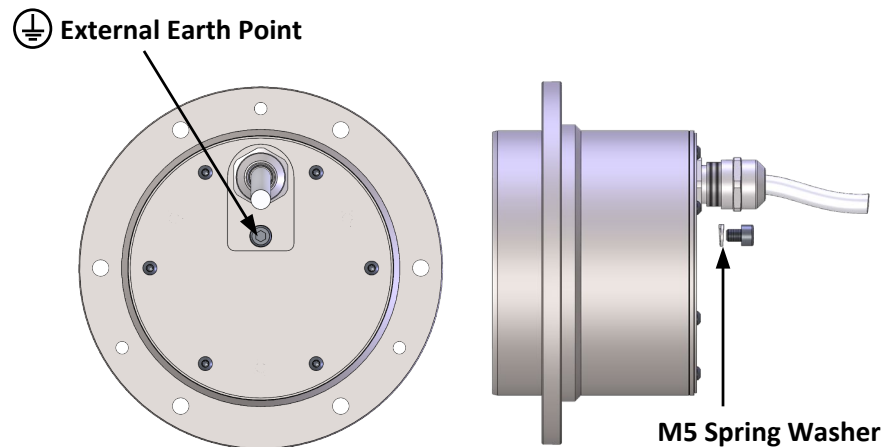

Figure 4: External Earth Point
- Ensure the sensor, mounting components and housing are suitably earthed. The sensor must be earthed using a cable conductor $\geq 4\text{mm}^2$ (11 AWG). The supplied M5 spring washer must be used when connecting the earth cable (Figure 4).